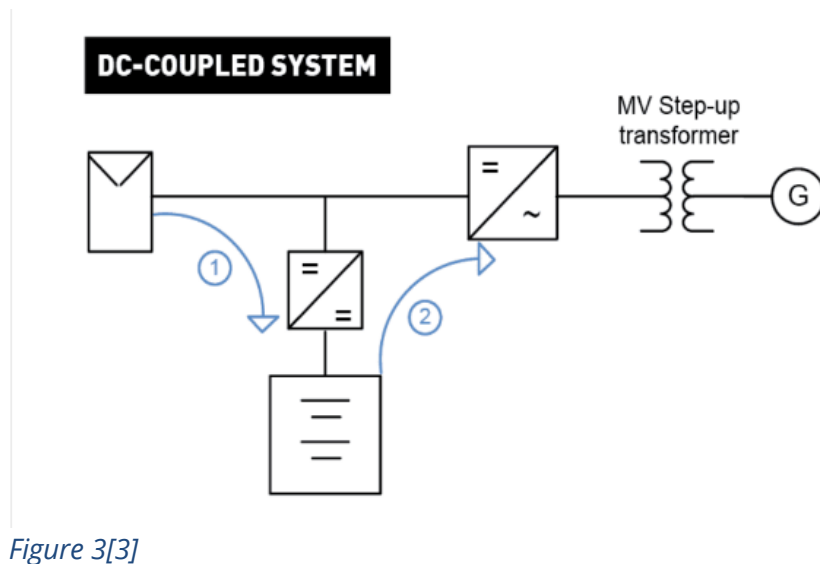

Figure 3[3]
4. **Higher round trip efficiency:** Vendors are making this a very big point, but the increase in efficiency due to DC coupled system is not more than 0.5 -1.0%. As the DC coupled system shows in figure 3 [3], discharging of the battery happens through a similar path, but it is the charging path which changes from DC-AC-DC to DC-DC — this change does not contribute much to increase the efficiency (figure